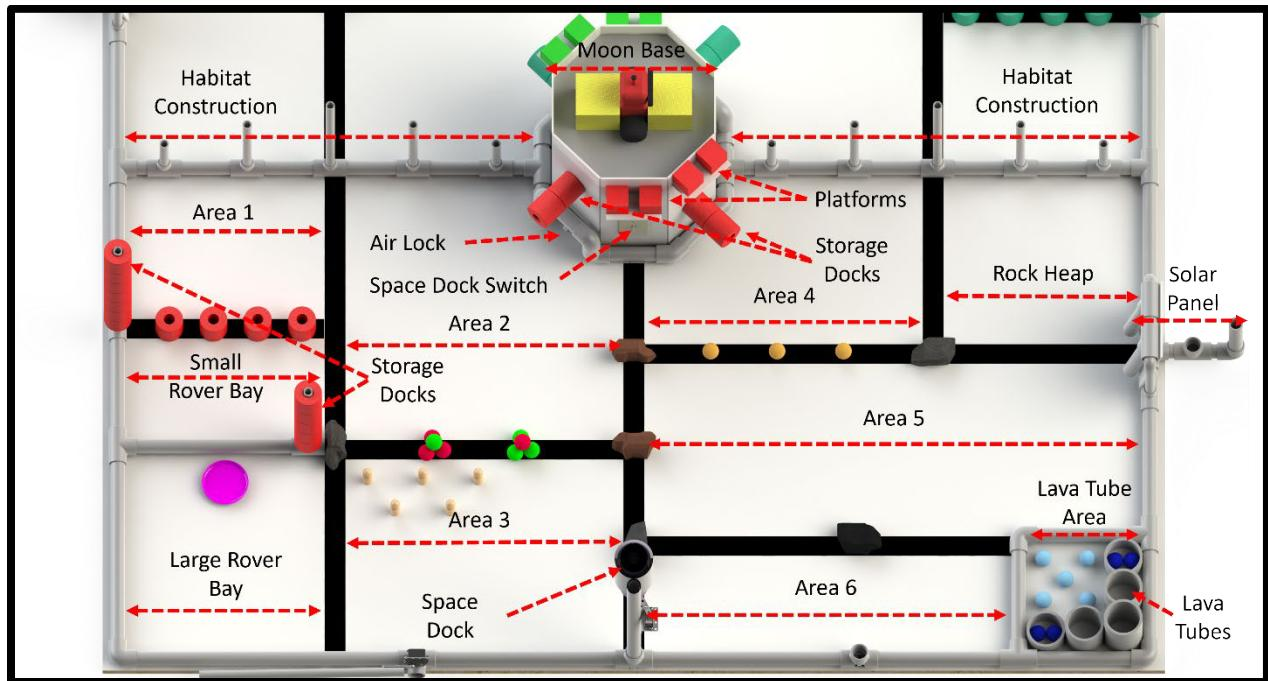

Figure 2 - Game Areas
**Area 1** – A team's *Area 1* is the surface of the game table as delineated by the inside edges of the surrounding PVC and tape and is situated above (relative to the Figure 2 image) the *Small Rover Bay*.